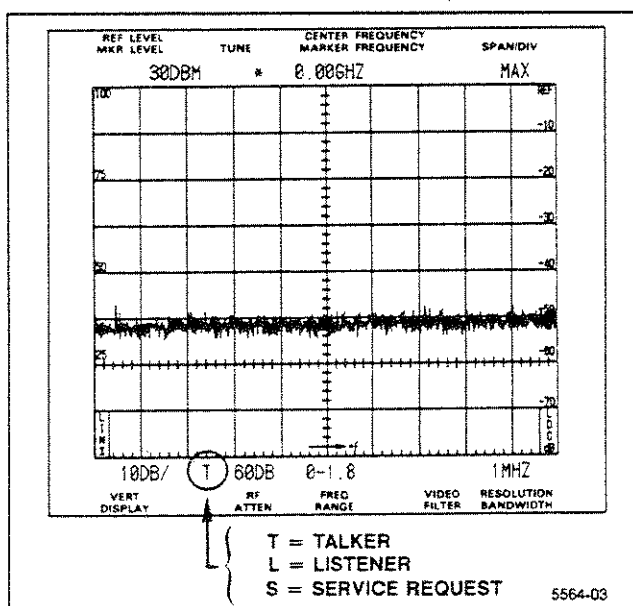

Figure 1-2. Status of active GPIB functions.
A single character appears in the lower crt readout when the spectrum analyzer is talking (T), or listening (L); see Figure 1-2. Two characters will appear in this location if the instrument is talking or listening and also requesting service (S), or if the instrument is in both the talk-only and listen-only mode.